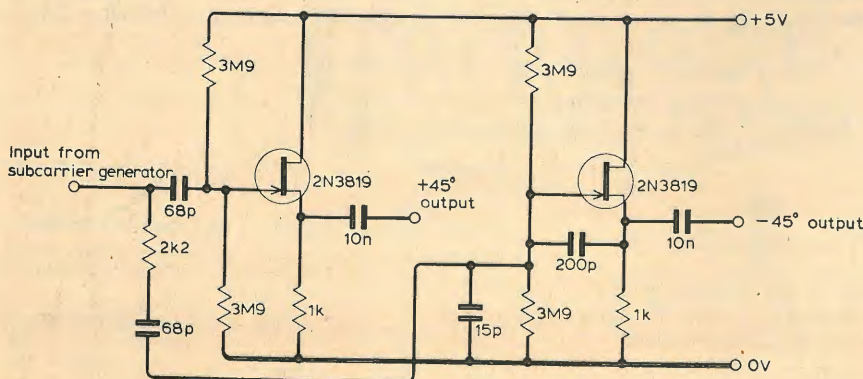
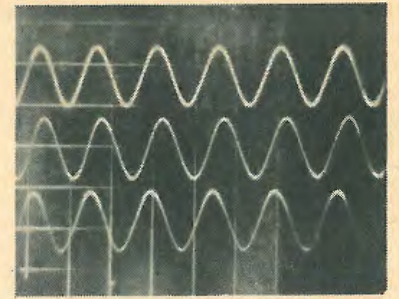

Fig. 5. Circuit to provide outputs leading and lagging by  $45^\circ$  on colour subcarrier to produce colour burst.
Fig. 6. Waveforms from circuit of Fig. 5. Top trace is input, middle trace leading and bottom output lagging.
**Fixed phase-shift.** The phase of the colour burst alternates by  $\pm 45^\circ$  about the -U axis. Figure 5 shows two networks which use single RC and CR networks to provide the  $\pm 45^\circ$  phase shifts, the resultant being fed to source follower buffer stages. The outputs from the source followers are capacitively coupled to f.e.t. switches in the burst gating unit. The characteristics of the fixed phase shift unit are seen in Fig. 6.